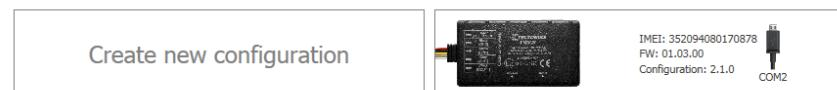

Figure 10 FMB920 configurator window when selecting the connection method
- ‘Connect to device’ (Figure 10) – connects device.